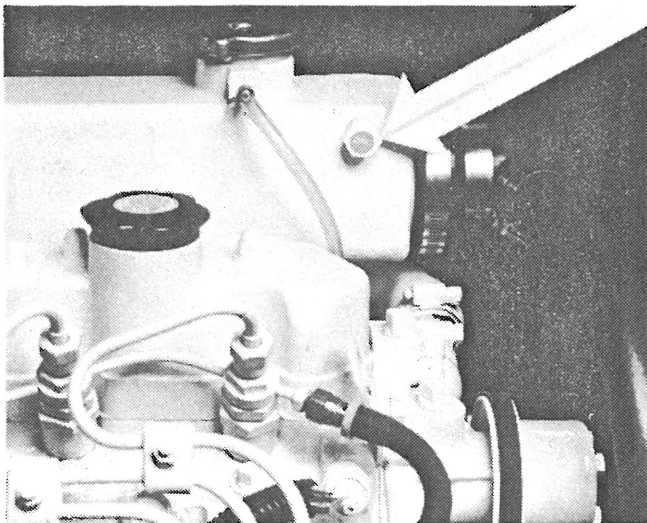

Figure 60 - 753 Zinc electrode.
- a. Zinc electrodes are installed in the heat exchanger (see figure 60).